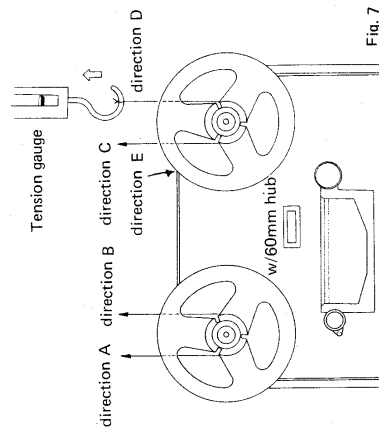

Fig. 7
• Adjustment Steps (Figs. 7 & 8)
2. With tape deck vertical, perform 19 cm/s play-back and measure back tension of supply reel hub (pull in direction B of Fig. 7).
2. With deck in vertical position, perform 19cm/s playback and measure take-up reel torque (transmitted during take-up in direction E of Fig. 7).
1. With deck vertical, measure supply reel back tension (direction B of Fig. 7) during fast forward.